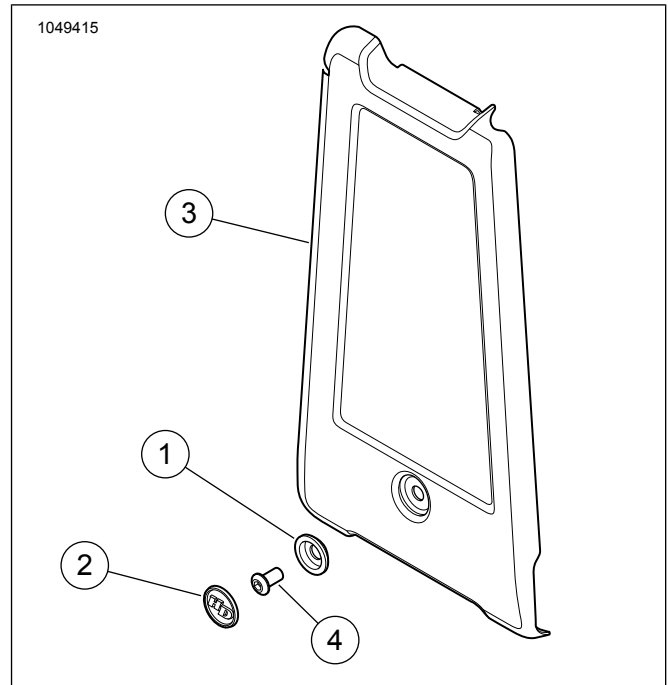

Figure 1. Service Parts: Oil Cooler Cover Kit
2. See Figure 1. Slide the top of the new cover (3) so that the tabs catch behind the top of the oil cooler.
4. Install spacer (1) and screw (4). Tighten.